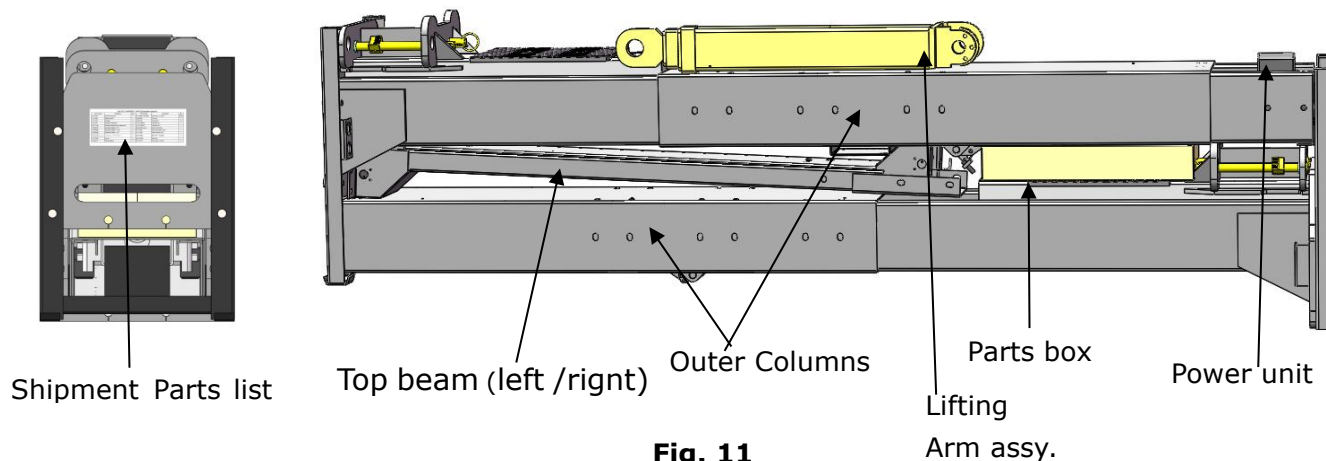

Fig. 11
2. Move the lift aside with a fork lift or hoist, open the package and check the parts according the shipment list. (See Fig. 11)